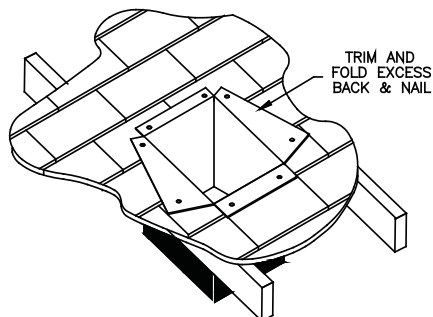

Figure 32
7. If the Support Box protrudes the roofline use tin snips to cut from the top corners down to the roof line, and fold the resulting flap over the roof sheathing (**Figure 32**). Before nailing it to
9. Connect the necessary amount of Pipe Sections to reach the stove and extend at least 12-inches above the roof before attaching Termination Cap (**Figure 32**).